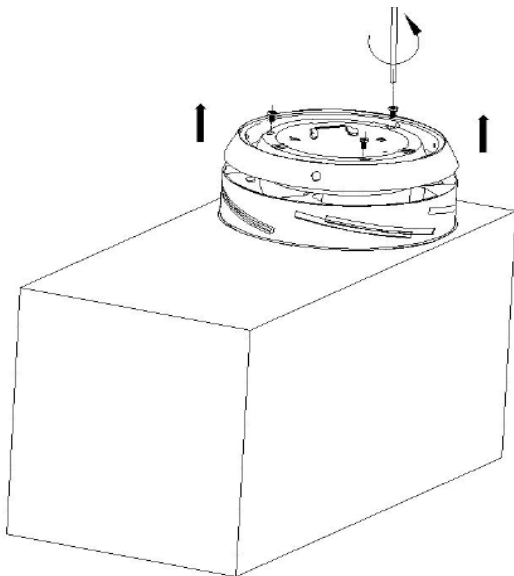

Fig. 4
- Remove the screws from the light plate and remove the light plate. Fig. 4